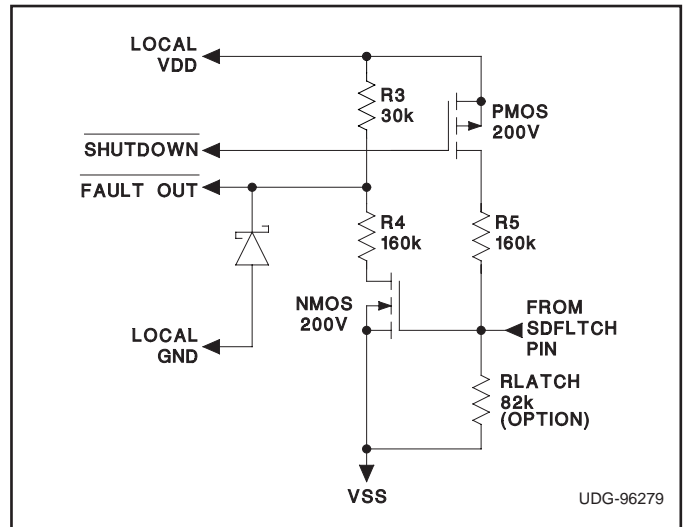

Figure 6. Possible Level Shift Circuitry to Interface to the UCC3921, showing component values selected for a typical telecom application.
Some type of circuit is needed to interface with the UCC3921 via SDFLTCH, such as opto-couplers or level shift circuitry. Figure 6 depicts one implementation of level shift circuitry that could be used, showing component values selected for a typical –48V telecommunications application. There are three communication conditions which could occur; two of which are Hot Swap Power Manager (HSPM) state output indications, and the third being an External Shutdown.
- 1) When open, and under a non-fault condition, SDFLTCH is pulled to a low state. In Figure 6, the N-channel level shift transistor is off, and the FAULT OUT signal is pulled to LOCAL VDD through R3. This indicates that the HSPM is not faulted.
- 2) When a fault is detected by the fault timer or under-voltage lockout, this pin will drive to a high state, indicating that the external power FET is off. In Figure 6, the N-channel level shift transistor will conduct, and the FAULT OUT signal will be pulled to a Schottky Diode voltage drop below LOCAL GND. This indicates that the HSPM is faulted. The Schottky Diode is necessary to ensure that the FAULT OUT signal does not traverse too far below LOCAL GND, making fault detection difficult.
If a $5k < R_{LATCH} < 250k\Omega$ resistor is tied between SDFLTCH & VSS, as optionally shown in Figure 6, then the latched operating mode (described earlier) will be invoked upon the occurrence of a fault.